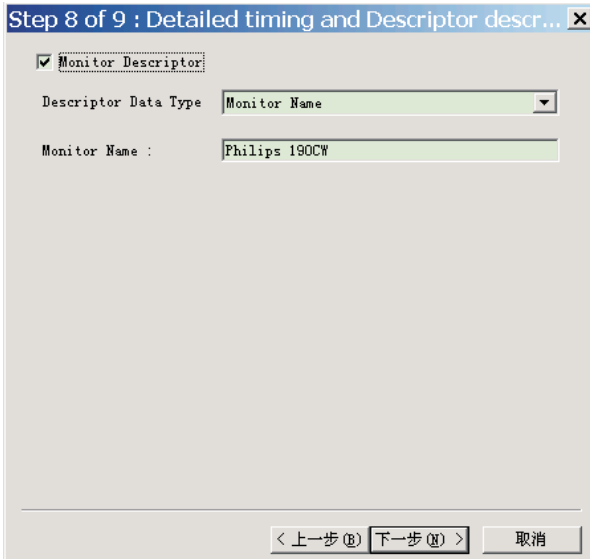

Fig. 38
- 7. Click Next , bring up Fig. 38.